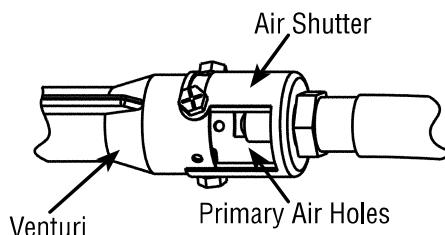

Figure 74 - Injector Holder on Outlet Burner Tube
2. Inspect burner, pilot and primary air inlet holes on injector holder for dust and dirt (see **Figure 74**).